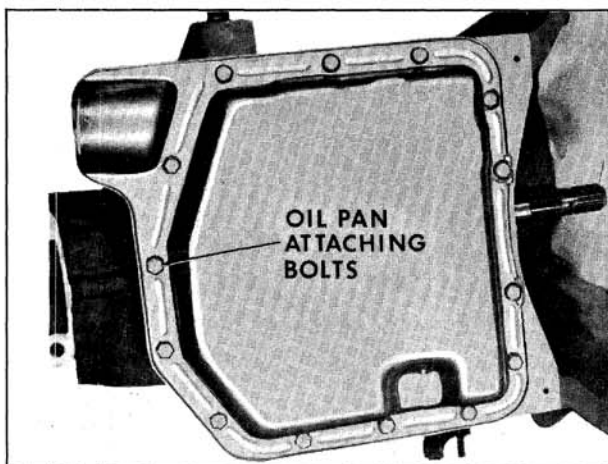

Fig. 6-541 Installing Oil Pan Attaching Screws
15. Install 14 oil pan attaching bolts. Torque bolts to 12 ft. lbs. (Fig. 6-541)